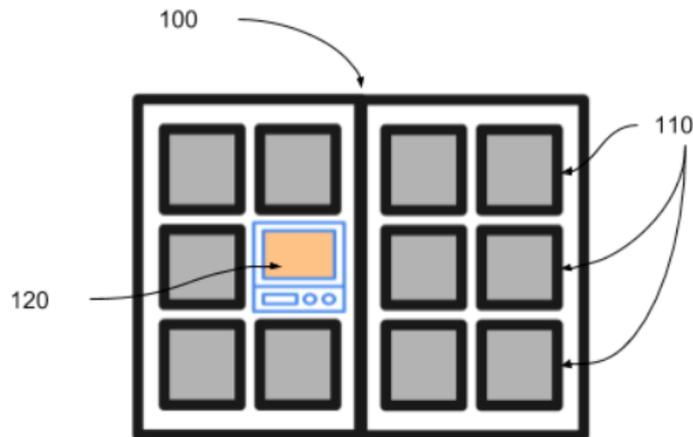

Fig. 1: A neighborhood kiosk to obtain, swap, or return equipment
Fig. 1 is a schematic of an example smart kiosk (100). The kiosk includes multiple lockers (110) and a console (120) configured to enable user interaction with the kiosk. The lockers are designed to store and dispense user equipment.